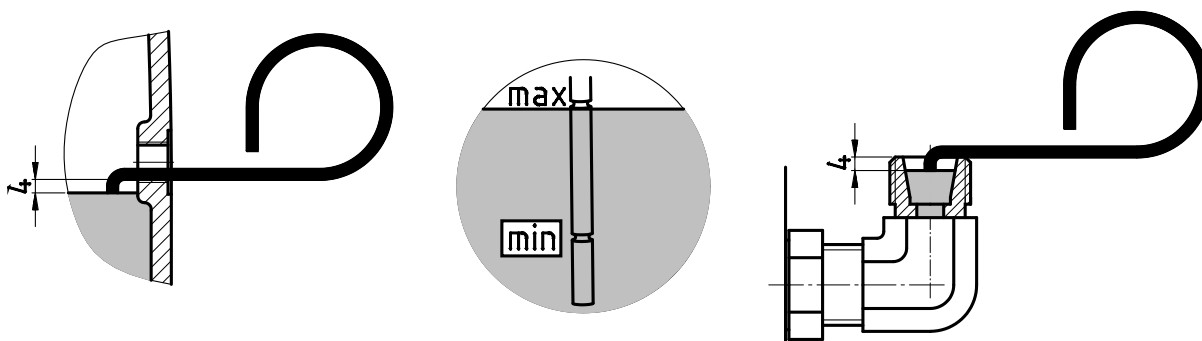

Figure 27: Checking the oil level with a dipstick
1. Standard version M4 (V1 and V5) helical gear units have an angled pipe for checking the oil level as shown in Figure 27 (right-hand illustration). This must point vertically upwards. Before checking the oil level, unscrew the pressure vent.
3. Check the oil level in the gear unit with the dipstick supplied (Part No.: 283 0050) as shown in Figure 27 (left and right illustration). To do this, hold the part of the dipstick which is submerged in the oil vertically.
The oil level must be checked with the aid of the dipstick plug (thread G1¼) in the oil reservoir tank. The oil level must be between the upper and lower marking when the dipstick is fully screwed in; see Figure 27 (centre illustration). These gear units may only be operated in the mounting position stated in Section 7.1 "Versions and mounting position".